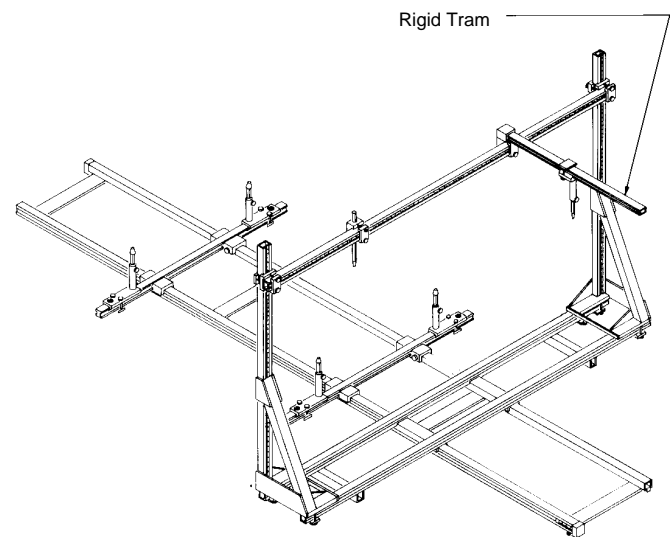

Figure 10
19. Most underhood points which are forward of the overhead bar are measured with rigid tram. To use rigid tram, remove one of the upper scale pins. Insert pin on rigid tram into upper scale guide and tighten screw knob on back side of guide. (See Figure 10.)